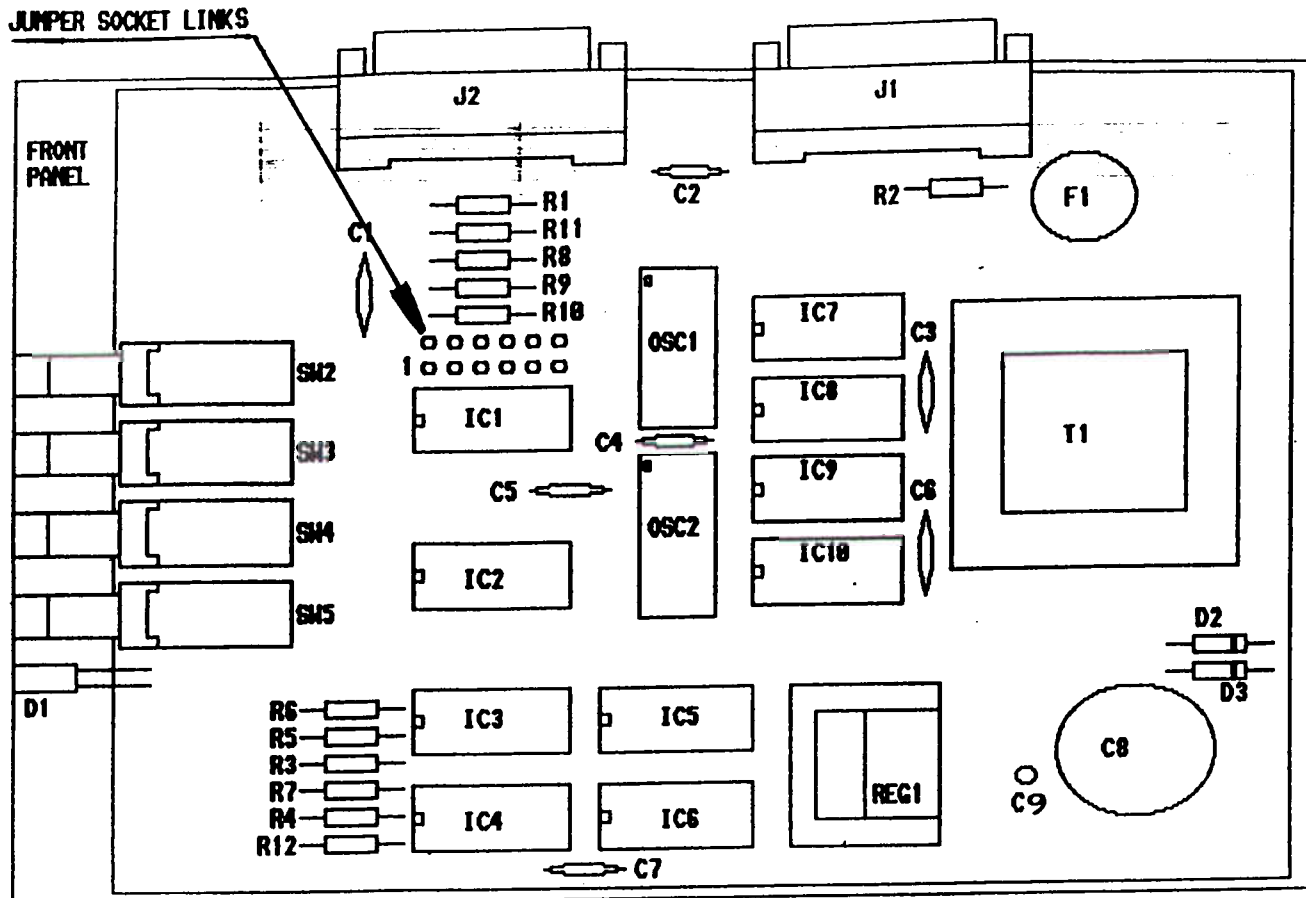

FIGURE 1 COMPONENT LAYOUT
3. Set the data speed to one of the four values 48, 56, 64 or 128 kbps by setting the internal socket links as shown in figures 1 and 3.
The mains fuse is housed in a PCB mounted fuseholder shown on figure 1.
ORIENTATION OF UNIT AS IN FIGURE 1